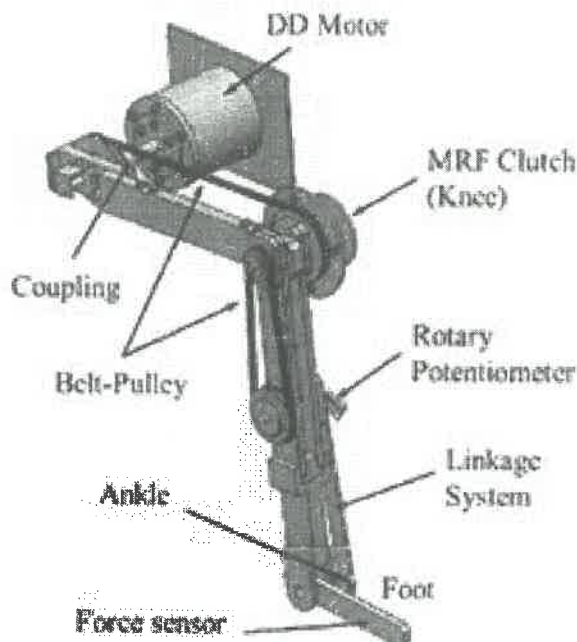

Figure 1: Robotic leg
- Q.1 A robotic leg is developed as shown in figure 1. The mechanism has a timer-belt-based power transmission system. but due to misalignment between the two shafts of the system the power transmission failed, suggest an economic and easy power transmission installation. Draw, explain, and justify your comment. Develop a mathematical formulation for the power transmission element (in case it is a belt drive system then the length of drive system, velocity ratio, and torque relationship). (10 marks)
- Q.2 For the robotic leg shown in figure 1, determine all kinds of sensors that will be opted to make the system work accurately apart from some listed in the figure. Draw a neat section view, construction, principle, and working of the identified sensors. (10 marks)
- Q.3 For the robotic leg shown in figure 1, determine the control algorithm to make it hop on the floor. Explain the construction and working of inverting and difference operation using Op-amp. (4+3+3 marks)